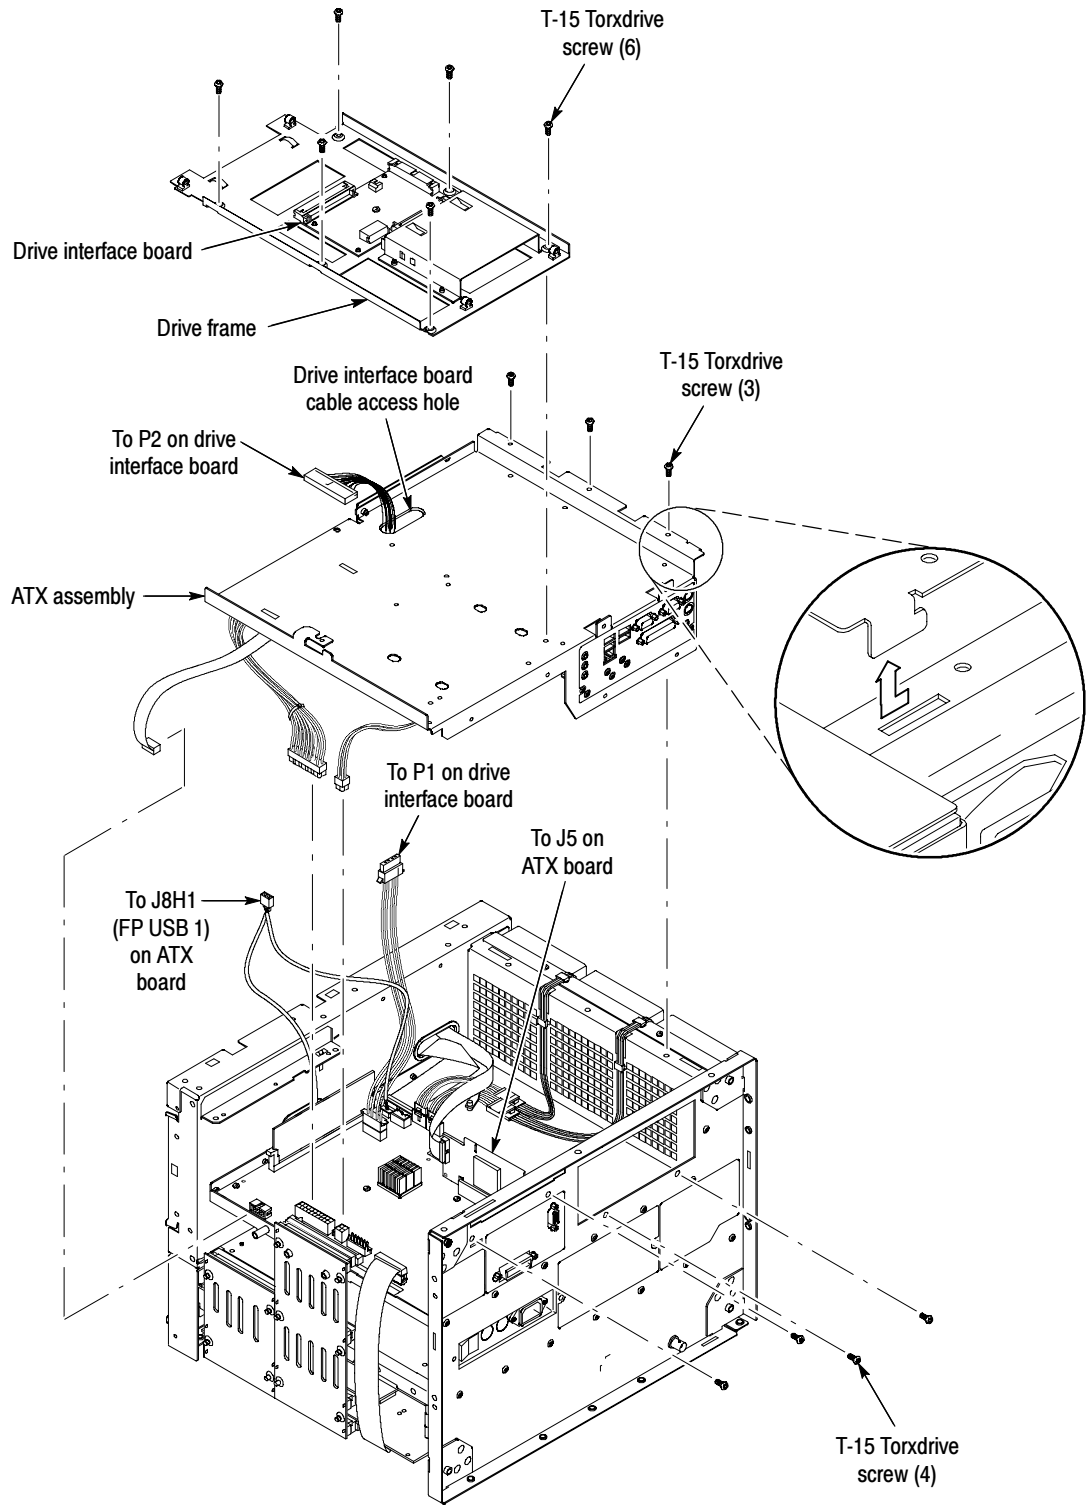

Figure 9: ATX assembly removal
- 2.** *Remove the ATX Board Assembly:* See Figure 9, page 21.